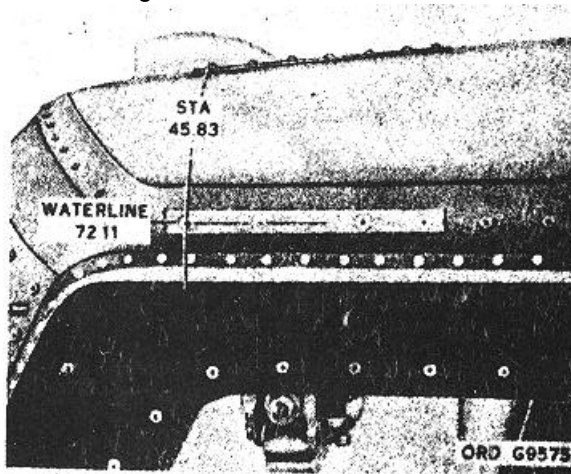

Figure 30. Location of waterline 72.11 and station 45.83.
- (1) Locate the screw at the intersection of waterline 72.11 and station 45.88 on the copilot's side of the helicopter as shown in figure 30.
- (1) Locate the screw at station 45.83 (fig. 30) on roof of the helicopter.
- (2) Remove this screw and the next six aft of it. Retain all screws.